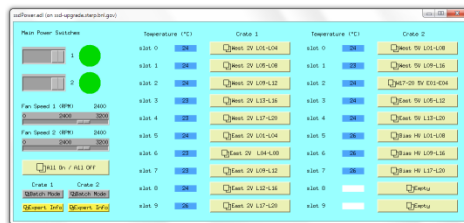

Figure 3. Power Expert
- Click on Power Expert button and Figure 3 will appear